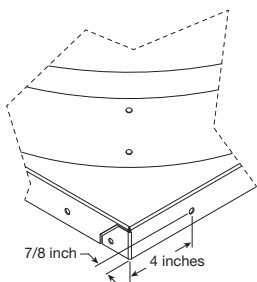

Figure 3
9. Check ventilator base for factory-punched hole at or near dimensions indicated by Figure 3. If this hole exists, it can be used as the upper connection point for the stop cable. If not, drill a 5/16 inch hole in the ventilator base at the dimensions indicated in Figure 3.